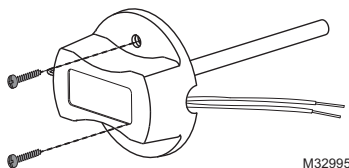

Fig. 15. Mounting Discharge/Return Air Sensor.
2. Drill 1/4-inch hole for the sensor probe and mount it to the ductwork with enclosed screws (see Fig. 15).